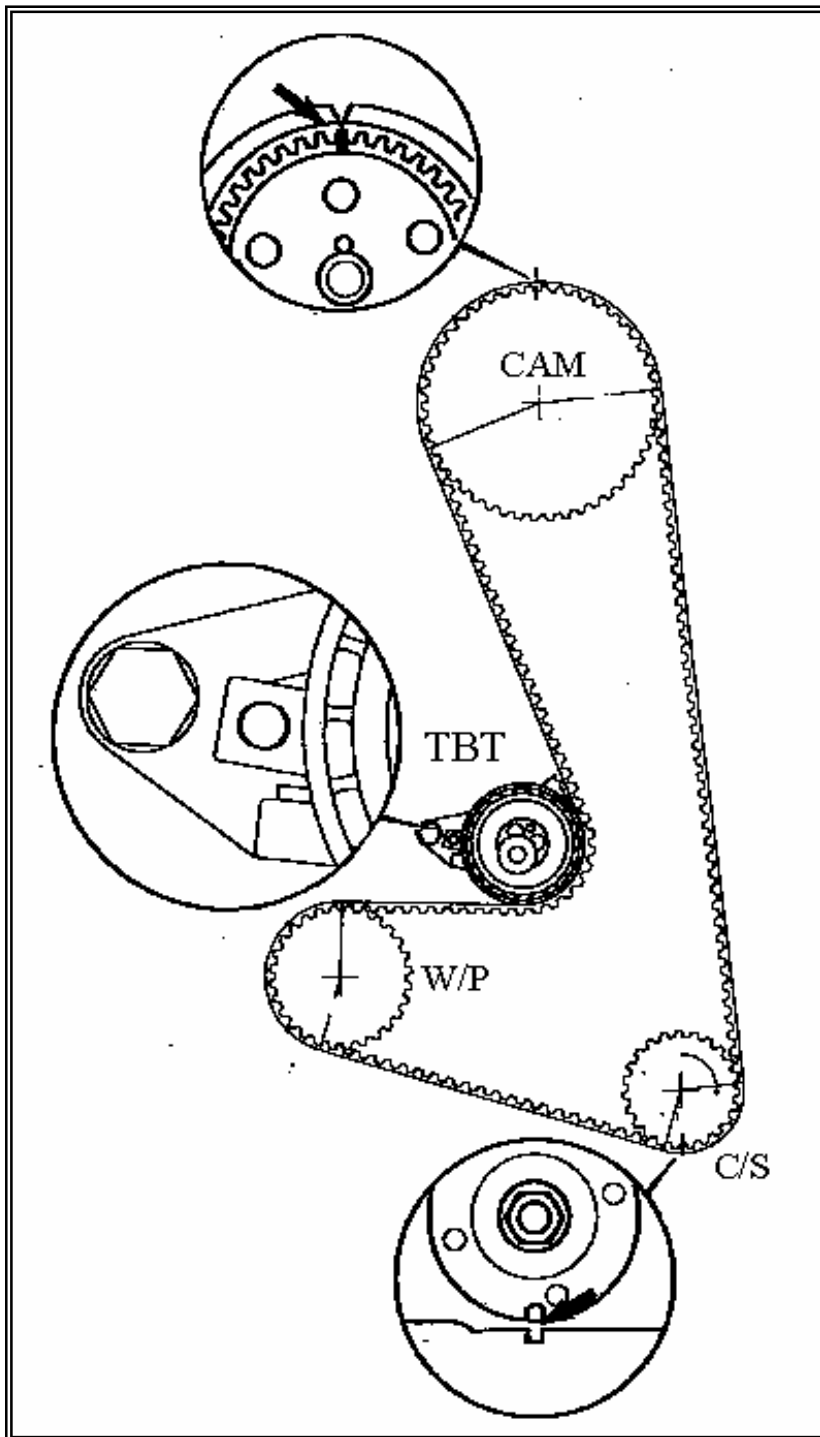

Figure 1: Belt layout at TDC Position for 979088 (GM and Daewoo 2.0L SOHC)
2. Rotate the crankshaft **CLOCKWISE ONLY** and align the marks on the Crankshaft sprocket with the corresponding mark on the oil pump. At this point, the Camshaft sprocket mark should also be aligned as shown in Figure 1.
8. Install a new timing belt being careful to engage the appropriate teeth of all the corresponding sprockets as per drive layout starting with the crankshaft and working counterclockwise. (See Fig 1).